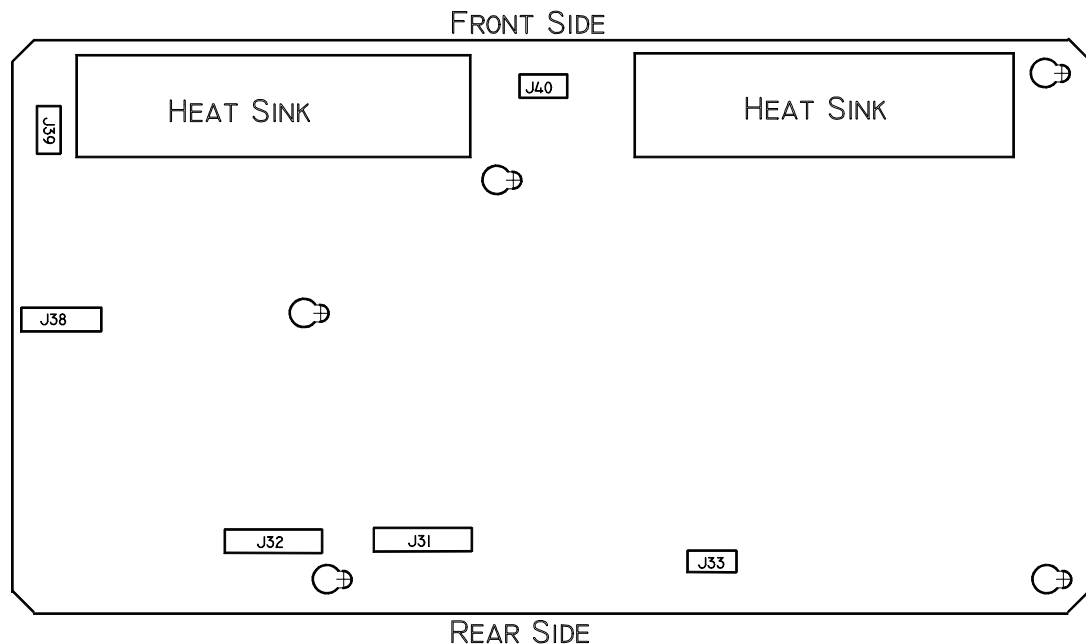

Figure 4-10. Convergence/Deflection PCB.
3. Disconnect 6 connectors; J31, J32, J33, J38, J39, and J40 from the Convergence/Deflection PCB (Figure 4-10). Move the cables out of the way.
4. Loosen (not necessary to remove) the 5 screws that secure the Convergence Deflection PCB to the electronic module card cage (Figure 4-10).